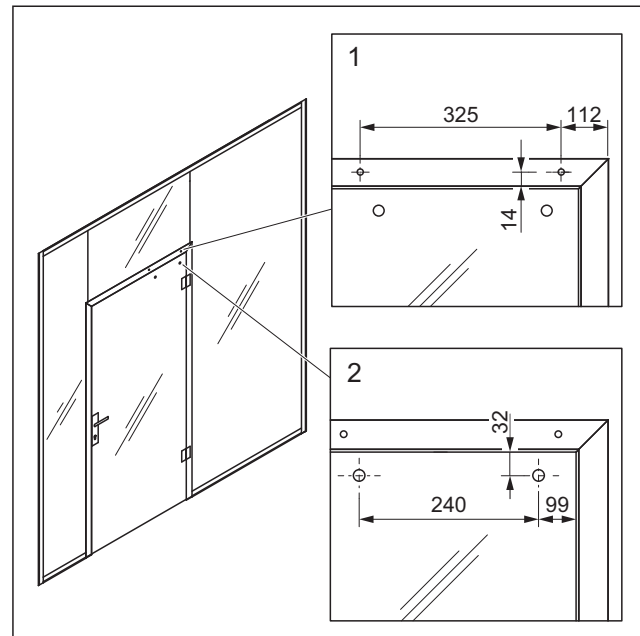

Fig. 5 Adjustment measurements for a UNIQUIN door closer system
1. Make sure that the installation situation for the door closer system's mounting is available (Abb. 5).